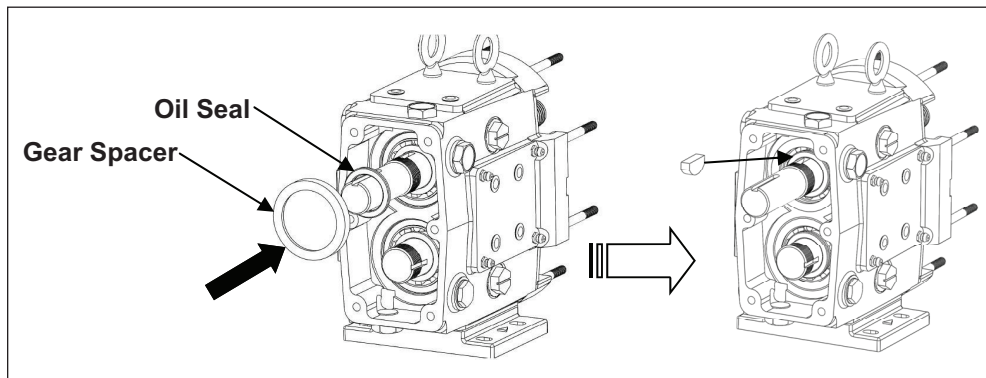

Figure 52. Rear Oil Seal and Gear Key Installation
7. Apply a light film of lubricant to the inside and outside diameters of the rear oil seals and install them into the back of the gear case with the spring side facing outward toward the gear. Install the gear spacers onto the shaft and place the gear keys into the shaft key slots (Figure 52).